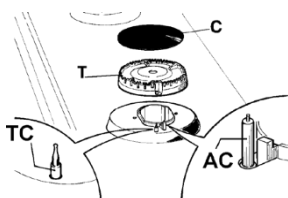
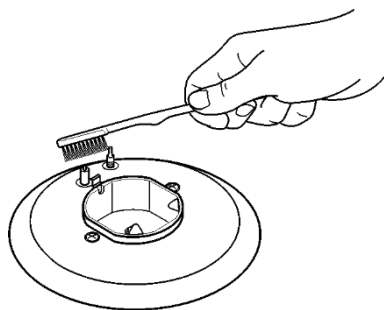

Fig. 6
Fig. 8
Periodically wash the hotplate, enamelled grates, enamelled burner covers "A", "B" and "C" and burner crowns "T" (see fig. 6-7) in lukewarm soapy water. Also clean the spark igniter "AC" and the gas flow safety device "TC" (see fig. 6). Clean them gently with a nylon brush as shown in the figure (see fig. 8) and leave them to dry completely. Do not wash in a dishwasher. Clean the hob components once they have cooled down. Avoid prolonged exposure of enamel surfaces to vinegar, coffee, salt water, lemon juice and tomato juice – risk of discolouration of the enamel. Do not clean with metal scouring pads, abrasive powders or corrosive aerosols.
- Make sure that the holes in the "T" burner crown (Fig. 6) are clear.
- Check that the enamelled burner covers "A - B - C" (Figs. 6 and 7) are correctly/securely fixed.